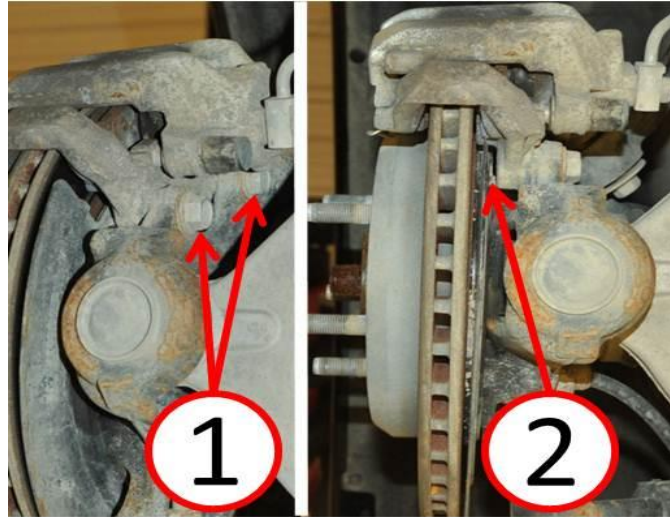

Fig. 1 Bolt Interference Inspection
3. Inspect for interference between the brake caliper adapter mounting bolts (1) and brake dust shield, at location (2) (Fig. 1). Inspect both left and right side of rear axle to determine if bolt contact with dust shield is observed.